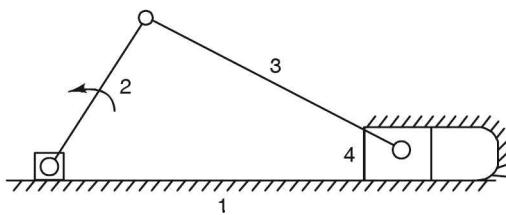

FIGURE 7.21 Reciprocating-engine mechanism.
- (a) *Reciprocating-engine mechanism*: In the chain, link 1 is fixed, link 2 revolves and link 4 slides. The reciprocating motion of link 4 is converted into revolving motion of link 1. See Figure 7.21.